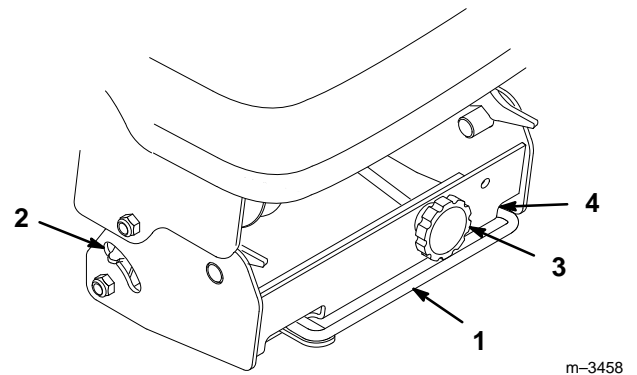

Figure 11
3. Release the belt tension release arm on the pulley box housing and swing it out toward you (Fig. 11).
6. Loop the other end of the belt over the drive pulley of the mower. Additional belt slack can be obtained (if needed) by turning the belt tension adjustment knob (Fig. 11).
- C. If the tension indicators are not in the same position, release the belt tension, turn the adjustment knob and repeat steps A and B until the indicators move to the same position (Fig. 11).
- D. Once the indicators are in the same position, swing the tension release arm into the pulley box and seat it by moving it into the position shown in Figure 11.